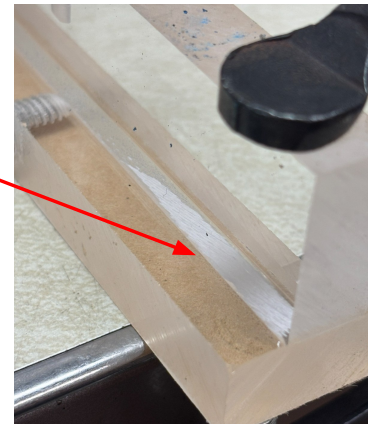

Figure 2.1
- ❖ The area beneath the clamp will not receive full coverage (*Figure 2.1*), so ensure the clamp does not extend to the edge of the assembly to allow the end to bond properly.